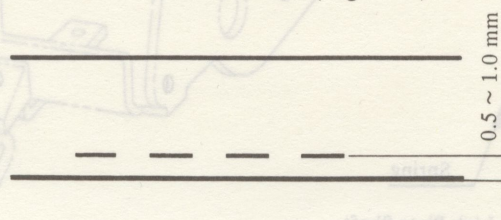

Fig. 16-3
- b) The movable distance ④ of correction operating plate link should be within a range of 0.8 mm to 1.2 mm. To adjust, bend the stopper ⑤ of correction solenoid holder. In this adjustment, it should be checked that dimension ⑥ is at least 0.5 mm.
- c) Try to erase an underline by depressing the correction key and adjust RL cam follower position after loosening the RL cam follower mount screw so that the underline on the lift-off (correction) tape is found at a range from 0.5 mm to 1.0 mm from the lower tape edge. Lower the RL cam follower when the underline traced on the lift-off tape is higher, and lift when it is lower. (Fig. 16-3)